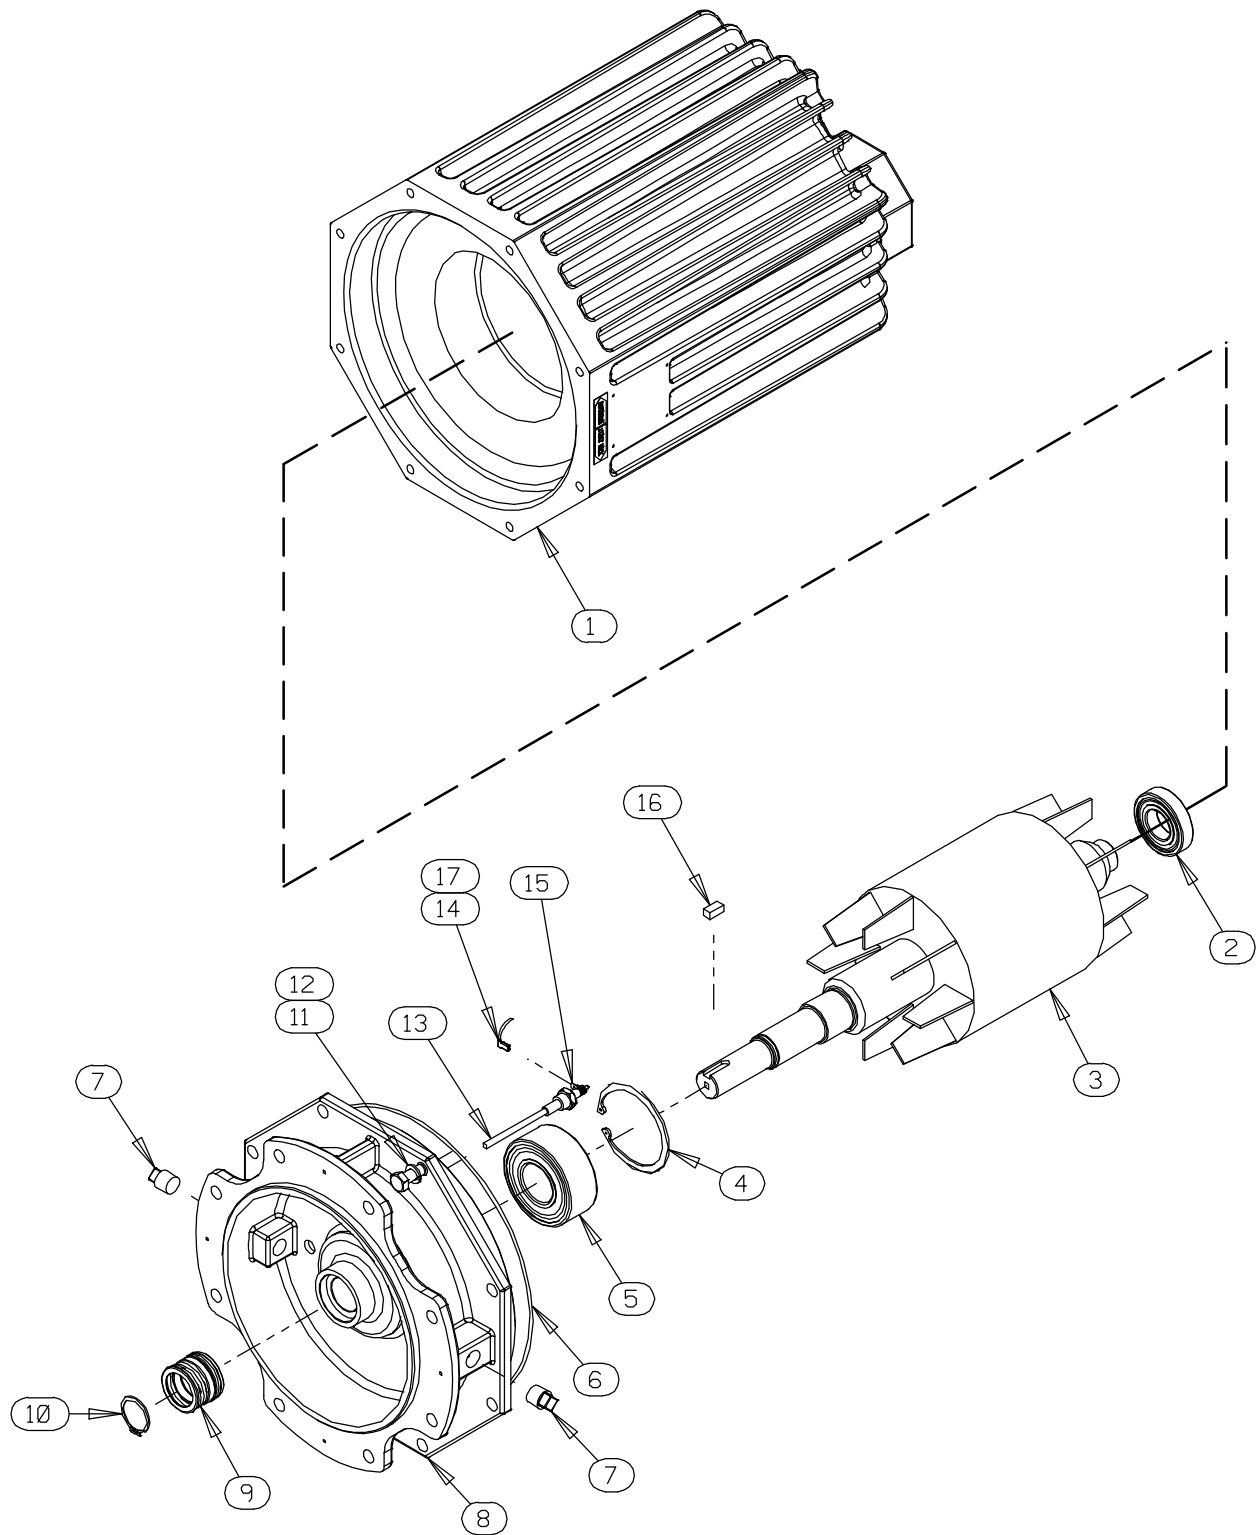

Figure E-2. Motor Assemblies
(Figure E-2)
To remove the impeller, use two thin-bladed screwdrivers positioned 180° apart to pry on the back of the impeller and “walk” the impeller off the shaft. Use increasingly larger screwdrivers (or wedges) as necessary. After the impeller comes free of the shaft, retain the impeller key (16, Figure E-2).